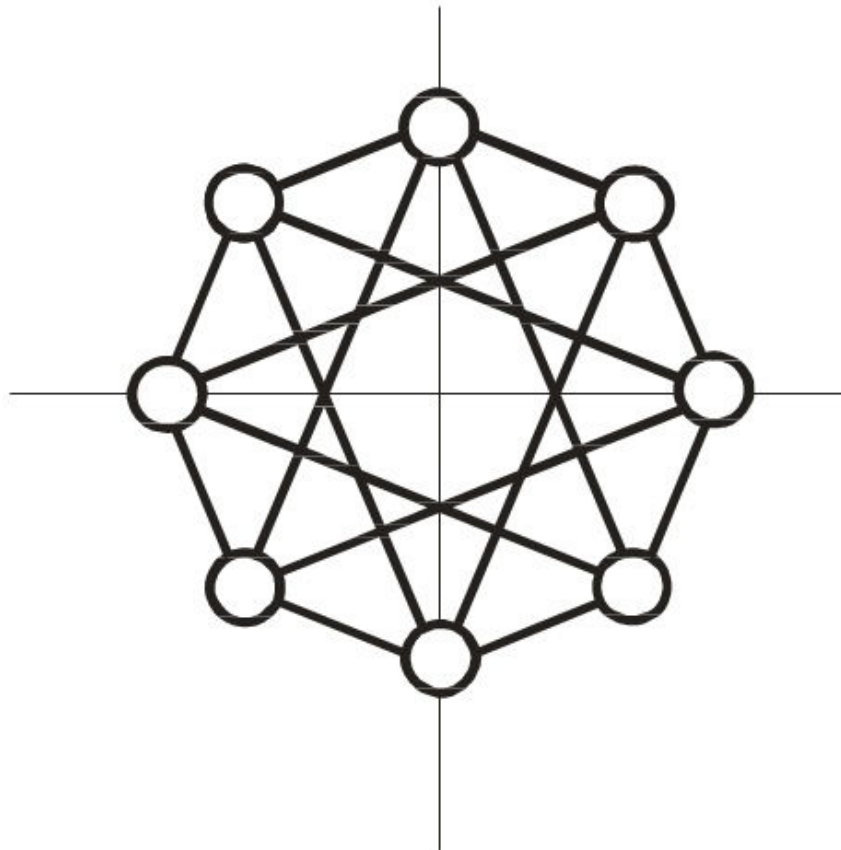

Figure 37: 8DQPSK
The version of the stack firmware shown in figure 37 requires no host processor (but can use a host processor for debugging etc.). All software layers, including application software, run on the internal RISC processor in a protected user software execution environment known as a Virtual Machine (VM).